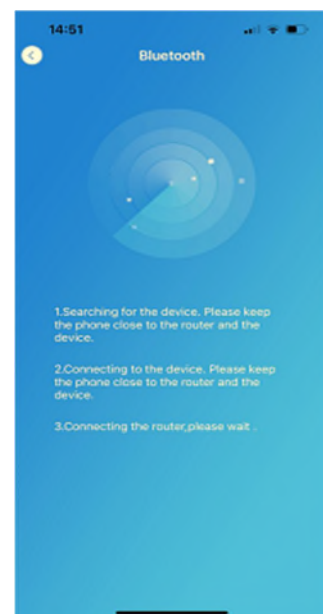

Fig. 33
11. The Aqua Temp app will now automatically connect to the module via Bluetooth in order to share the WiFi network credentials [Fig.33]. It will then disconnect from Bluetooth and wait for the heat pump module to connect successfully connect to the Aqua Temp server via the WiFi network.